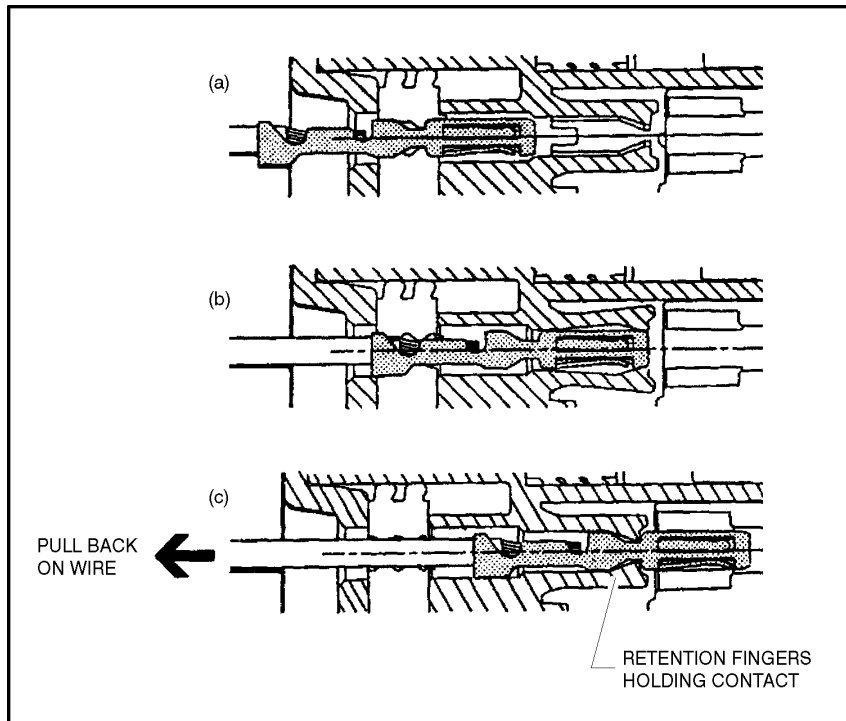

Figure 7-9. Connector Assembly Figure 2
1. To insert a contact, push it straight into the appropriate circuit cavity as far as it will go (See Figure 7-9.).
2. Pull back on the contact wire with a force of 1 or 2 lbs. to be sure the retention fingers are holding the contact (See Figure 7-9.).